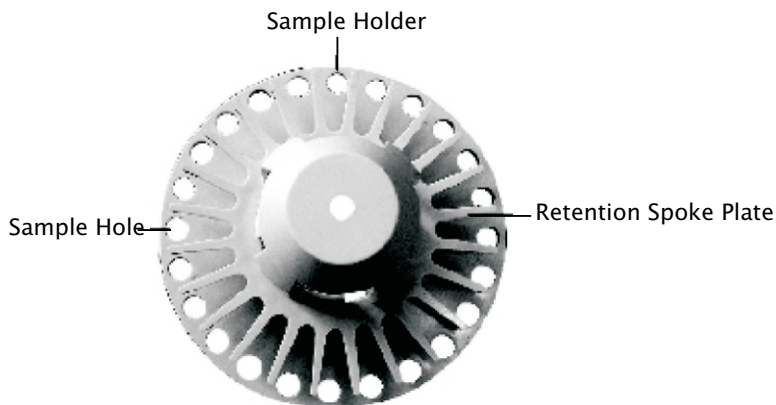

Fig. 5
4. Slightly uplift the spoke plate and rotate clockwise so that retention spokes move away from holes to leave them open for loading (Ref. Fig. 5).